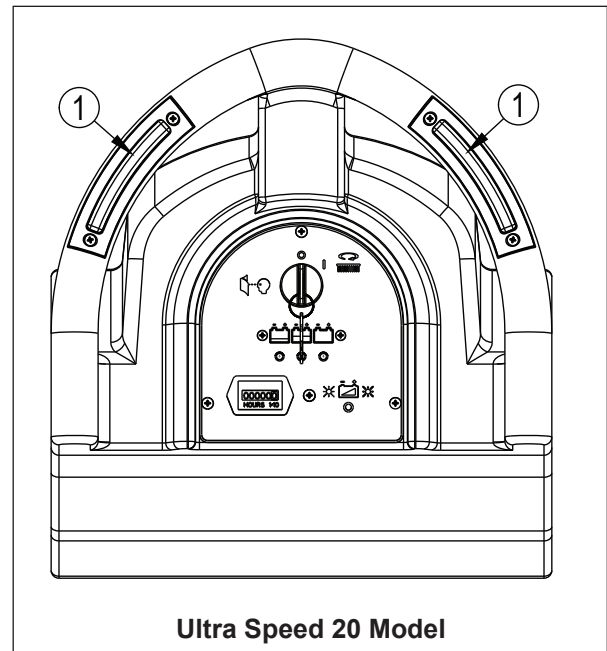

Figure 1
7. Push in one of the pad power switches (1). See figures 1 & 2.
Ultra Speed 20 (see figure 1) - Push in either the right or left pad power switch (1).